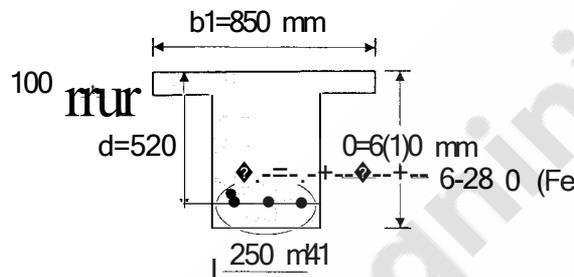

Fig. 1
1. Determine the ultimate moment of resistance for the T-beam section of effective width of 850 mm shown below (Fig. 1). Assume M20 grade concrete and Fe 250 grade steel. **(40)**